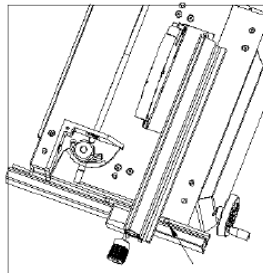
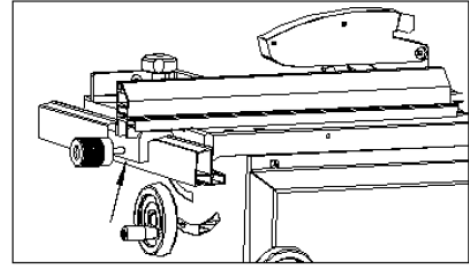

Fig.9
Fig.10
- 4) Use the right guide notch as a visual reference to confirm parallel alignment (Fig. 9, Fig. 10).